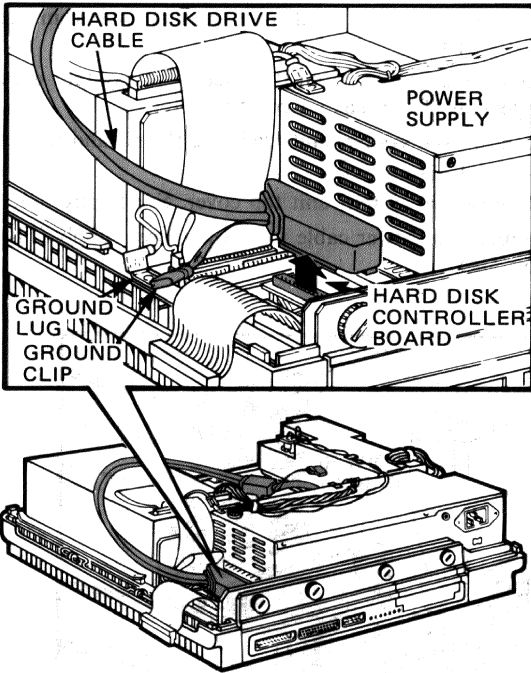

Figure 5-5 Hard Disk Drive Cable Removal
6. Unplug the hard disk drive cable if it is present (Figure 5-5). Leave the ground clip attached.